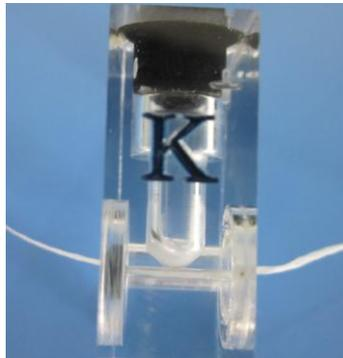

Figure 3-31
- Use a cotton thread, pull from both sides to remove the deposit protein. (See fig.3-31)